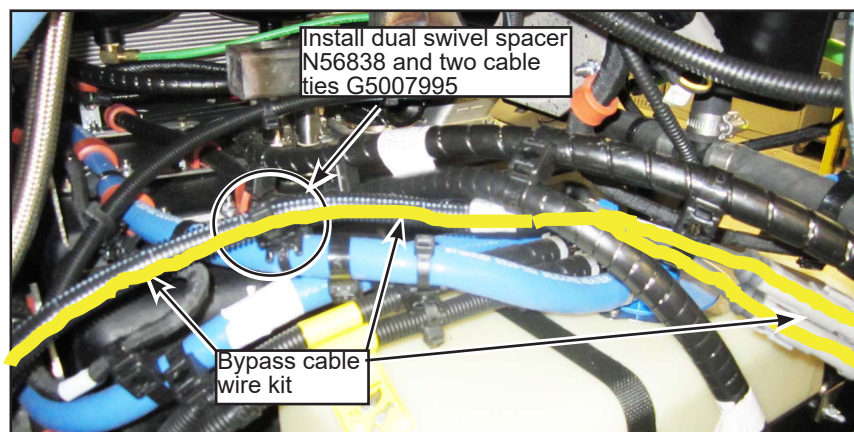

Figure 8 - Install the Dual Swivel Spacer with Two Cable Ties
- 1.8. Install the second N56836 dual swivel spacer with two G5007995 cable ties (see Figure 8).